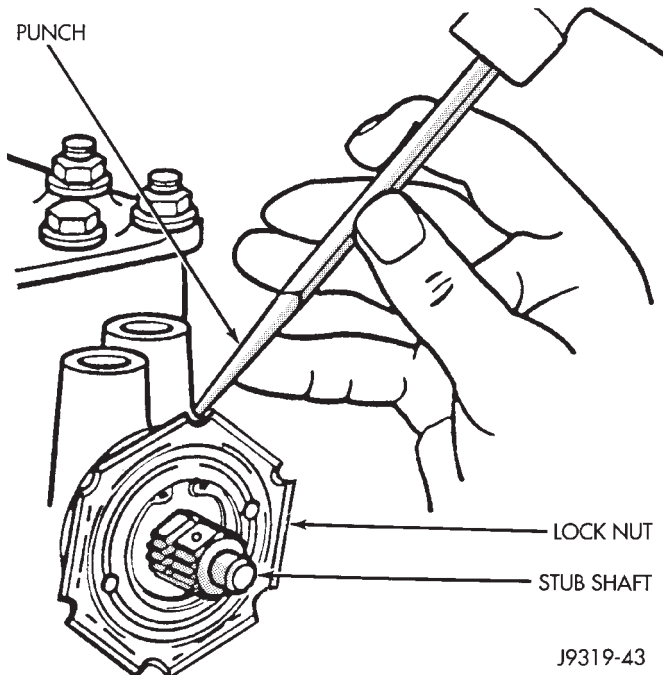

Fig. 27 Loosening the Adjuster Plug
- (1) Remove adjuster plug locknut (Fig. 27).
- (2) Rotate the stub shaft back and forth to drain the remaining fluid.